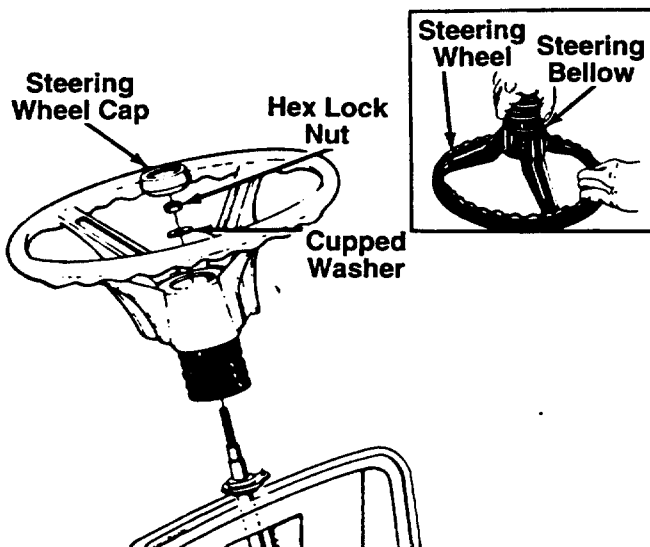

FIGURE 5.
1. Attach one end of steering bellow to the steering wheel as shown in figure 5, inset.
3. Place the washer with the cupped side down over the steering shaft. Secure with 5/16" hex lock nut. See figure 5.